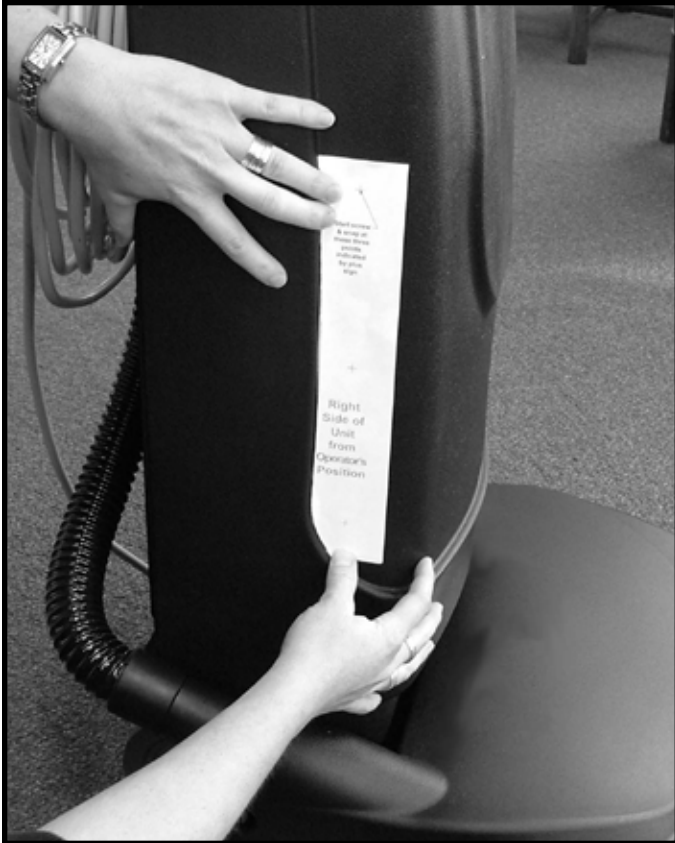

Figure 1
2. Align the template up to the correct side (right or left) of the handle (Figure 1)